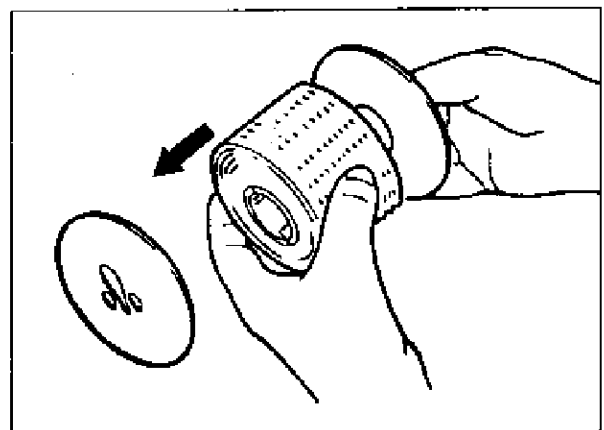

Fig.10
7. Remove the paper record from the take-up reel. (See Fig.10.).